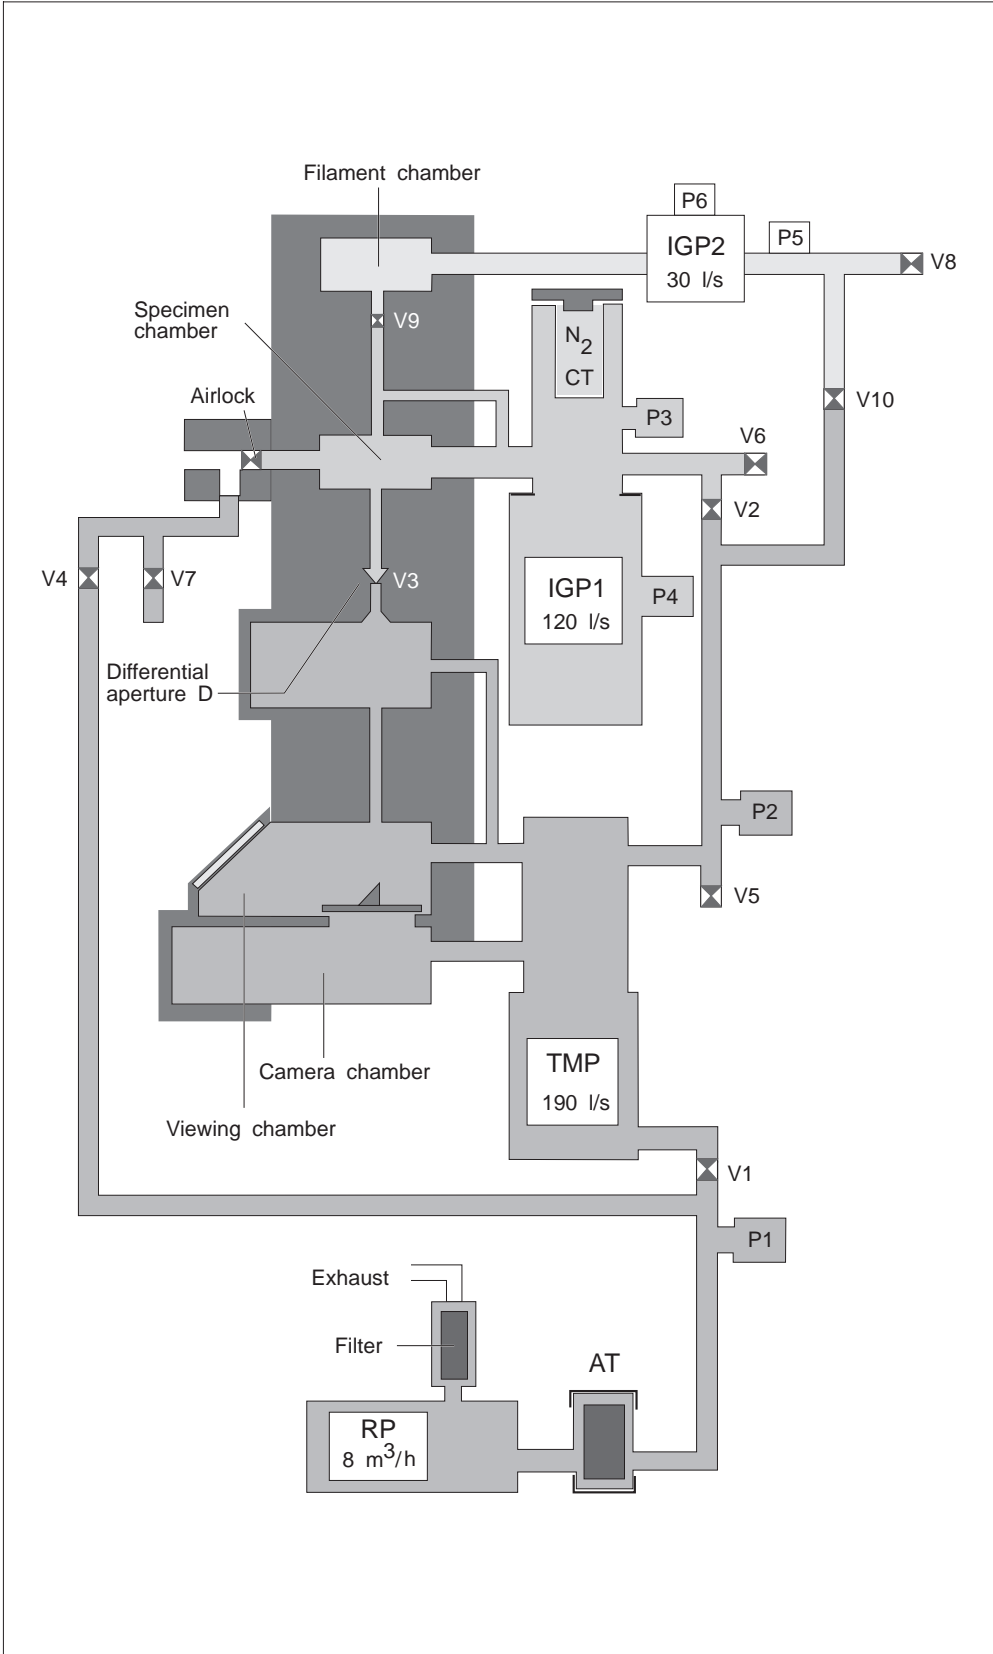

Fig. 1-28b: Vacuum system with option "2nd ion getter pump"
- an additional ion getter pump (IGP2) with isolating valves. This option is required for operation of an LaB₆ filament (see Fig. 1-28b).